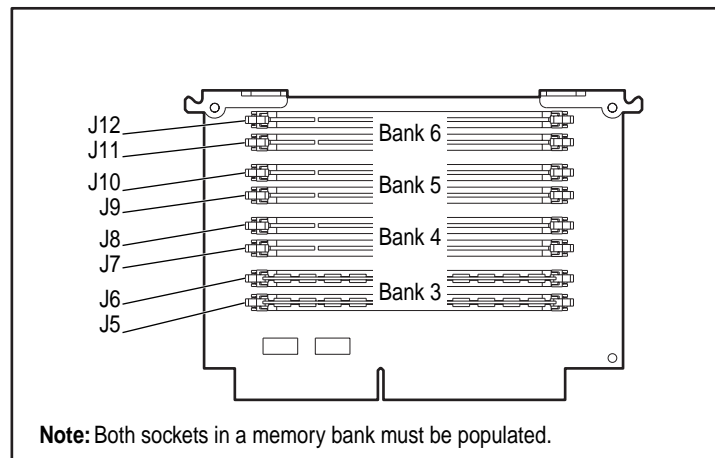

Figure 4-9. Memory Banks on the Memory Board
4. Install the memory board as shown in Figure 4-9.